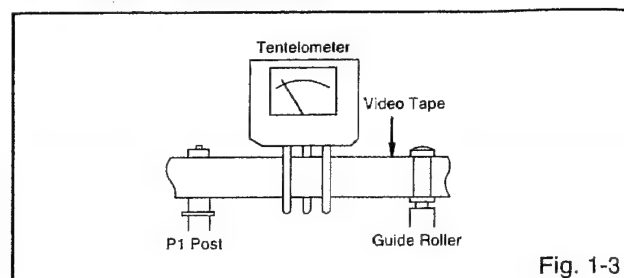

Fig. 1-3
2. Install the tentelometer as shown in Fig. 1-3. Confirm that the meter indicates $20 \pm 2gf$ in the beginning of playback.